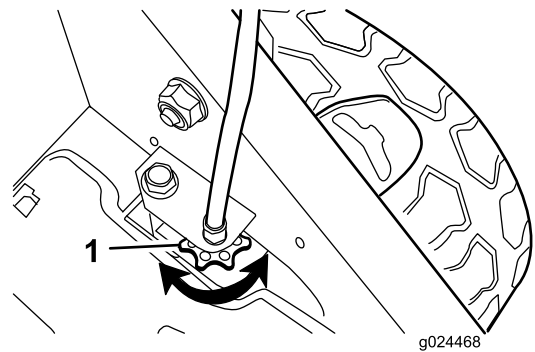

Figure 19
- If the wheels do not spin when you engage the self-propel-drive bar, the traction belt is too loose. Rotate the wheel-drive-control knob (Figure 19) clockwise 1 turn and repeat steps 3 through 5.
- If the wheels spin before you fully engage the self-propel-drive bar, the traction belt is too tight. Rotate the wheel-drive-control knob (Figure 19) counterclockwise 1 turn and repeat steps 3 through 5.